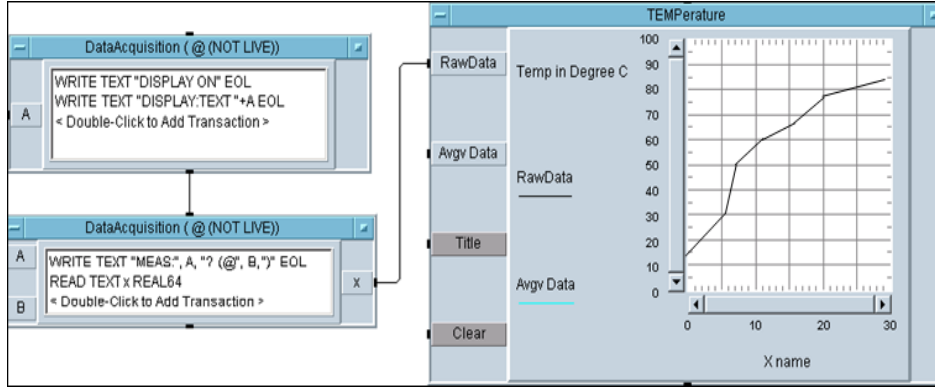

Figure 3-6 Simulation of the graphing program after running
5 See Figure 3-6 for a simulated output of temperature data.
- 4 Select WRITE, TEXT, and type "AM 5 VO" with EOL ON; click OK. See Figure 3-6.